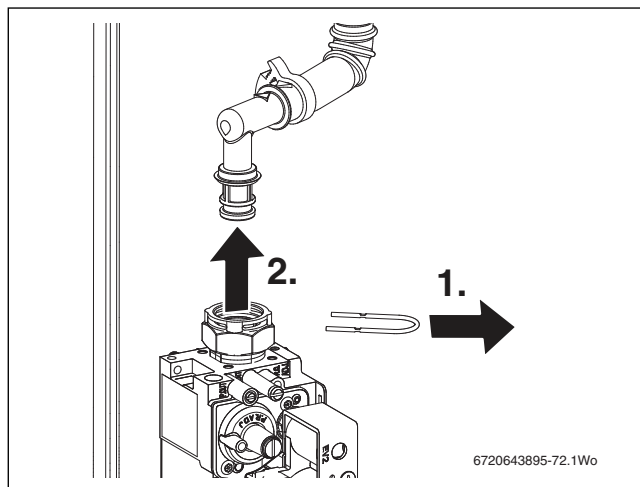

Fig. 85 Upper gas valve connection removal
- ▶ Remove wire clip from gas valve outlet then move gas pipe free from the gas valve (see figure 85).